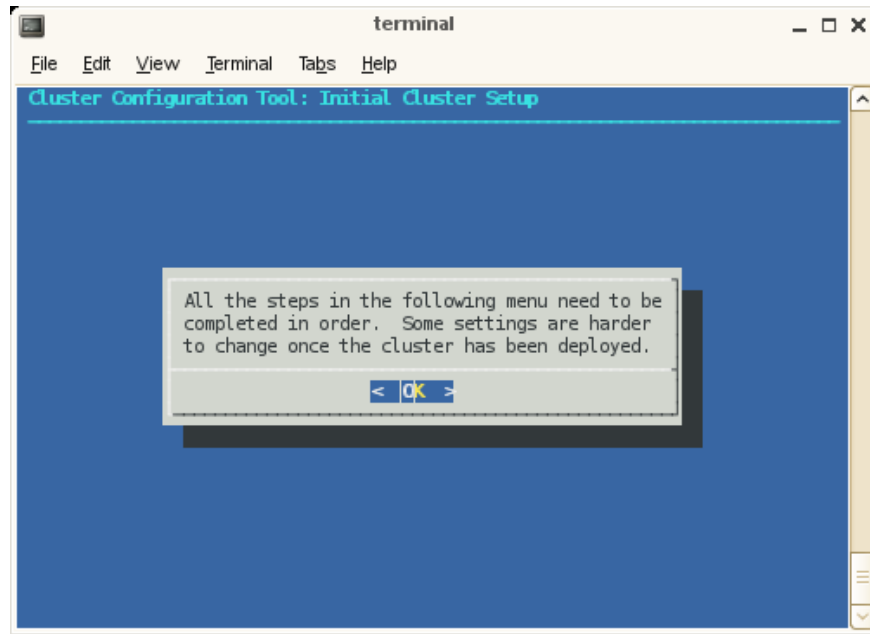

Figure 2-10 Cluster Configuration Tool: Initial Cluster Setup Screen
22. The **Cluster Configuration Tool: Initial Cluster Setup** screen appears, as shown in Figure 2-10 on page 43. Read the notice and then click **OK** to continue.